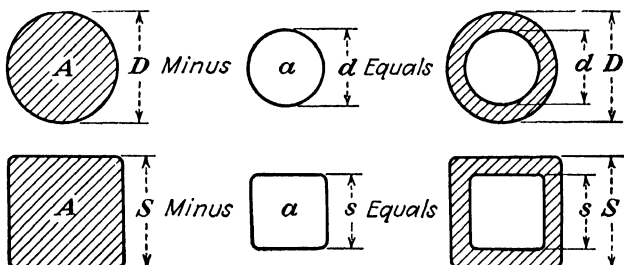

Fig. 230.
B. The Cross-sectional Area of Tubing. Figure 230 shows that the cross-sectional area of any tube may be obtained by taking the area A of a solid bar and subtracting the area a of a removed center portion.